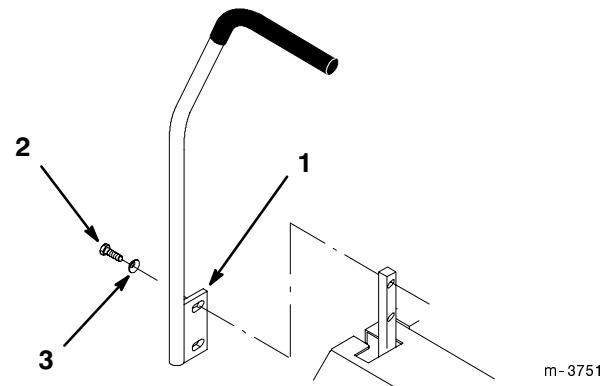

Figure 4
1. Remove the (4) 3/8-16 x 1" (26 mm) bolts and (4) 3/8" spring washers which attach the motion control levers to the control arm shafts for shipping (Fig. 4).
2. Place the levers (with the mounting plate toward the rear) on the outside of the control arm shaft and secure with (4) 3/8-16 x 1" (26 mm) bolts and (4) 3/8" spring washers (Fig. 4).
4. Align the front\rear position of the levers, with each other, in the neutral position. Loosen hardware and adjustment by sliding/tilting the lever(s) forward or backward until properly aligned(Fig. 4).